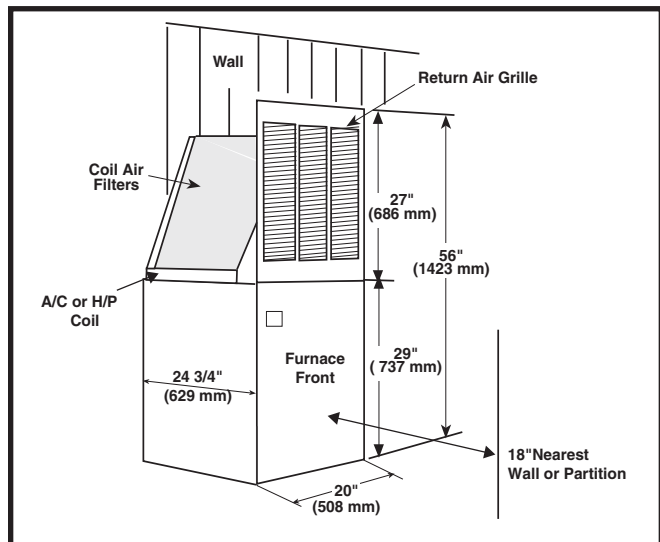

Figure 12. Alcove Installation
1. Cut alcove rough openings to minimum dimensions shown in Figure 12. **NOTE:** The height may increase depending on the size of the coil compartment.